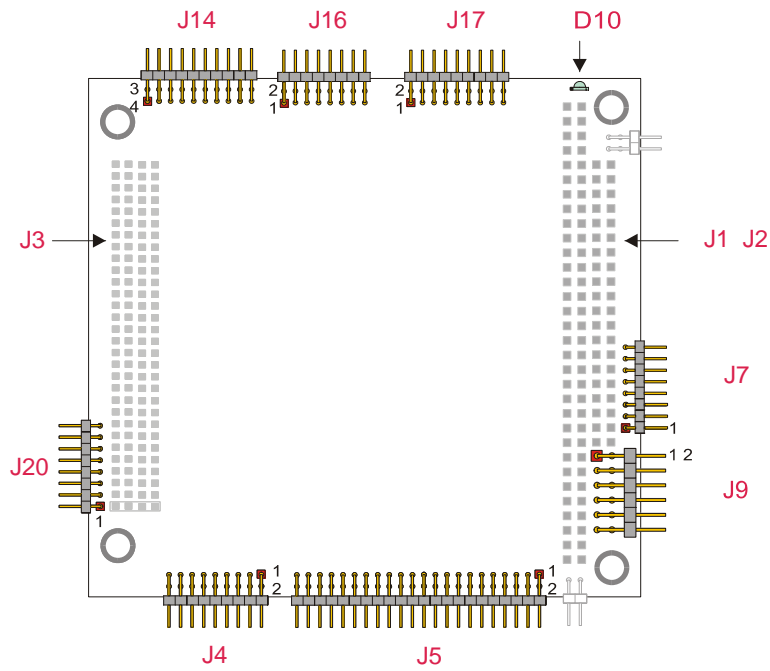

Figure 2. Connector layout
Figure 2 shows the connectors with their layout and function(s).
**Note:** in figure 2, a red square pad indicates pin 1 of each connector.